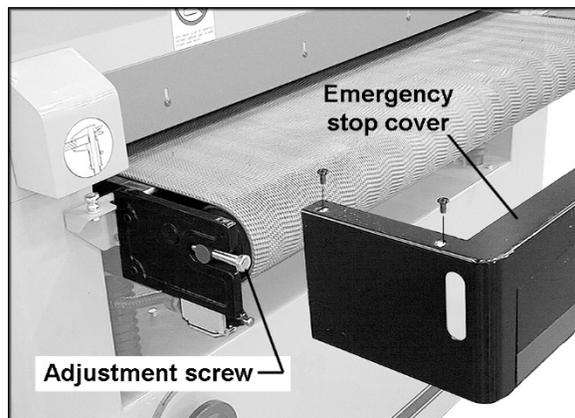

Figure 13
- Rotate the adjustment screws (the left one is shown in Figure 13) as needed with a 19mm wrench. Rotate clockwise to increase tension, counterclockwise to decrease tension. (NOTE: Removal of the emergency stop cover is not necessary for tensioning.)
1. Remove the four screws securing the emergency stop cover and remove the cover. See Figure 13. This will allow better inspection of the belt's movement on the roller.
3. Adjust tracking using the same adjustment screws that were used for tensioning in Figure 13.